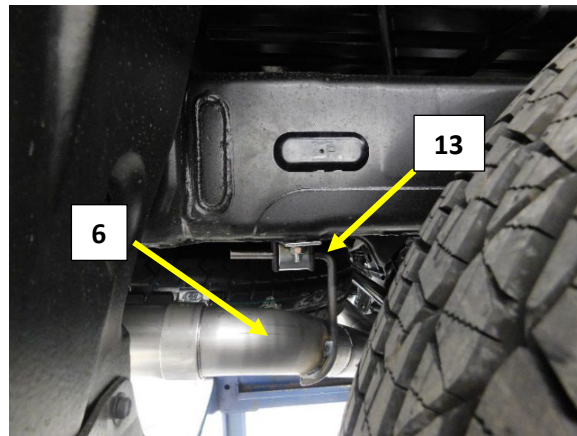

Figure.17
15. Install a supplied tail pipe frame hanger (13) on to the left tail pipe hanger rod. Rotate the tail pipe up and position the frame hanger on to the bolt installed into the frame rail and install a flat washer, lock washer and nut. Use the magnet or screwdriver in place to help hold the bolt as the washers and nut are installed. **Fig.17**